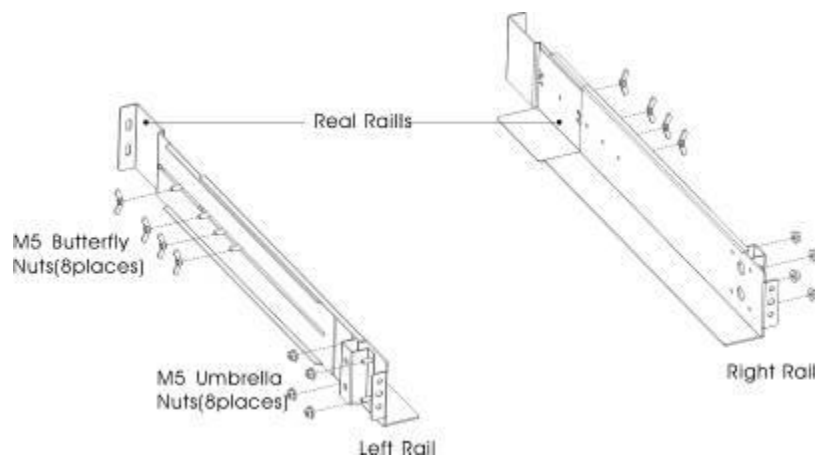

Figure1 Securing the Rails
- *If installing optional EBP(S), make sure to install the EBP(S) directly below the UPS so that all wiring between the cabinets is installed behind the front covers and inaccessible to users.*
(1) To install the rail kit
- a) Assemble the left and right rails to the rear rails as shown in Figure 1. Do not tighten the screws.
- c) Tighten four M5 Umbrella Nuts in the side of rail assembly (see Figure 1).